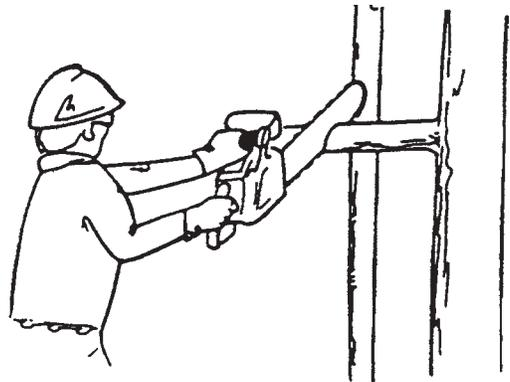

Fig. 7
- 5. Reaching above chest height to cut is extremely hazardous. Even with a Kick Guard you must maintain good position of your feet so as to keep your balance. Twisting and falling limbs are a hazard which you must always watch out for. (See Fig. 7.)